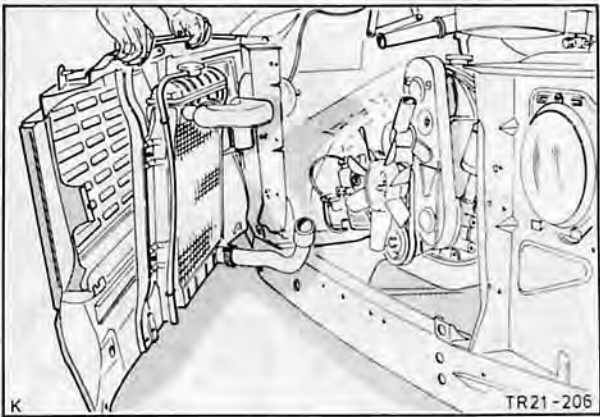

Fig. 23. Install radiator grille panel with radiator
25. Install radiator grille complete with radiator, Fig. 23, and bolt securely. Attach bumper with bracket and fit side pieces.